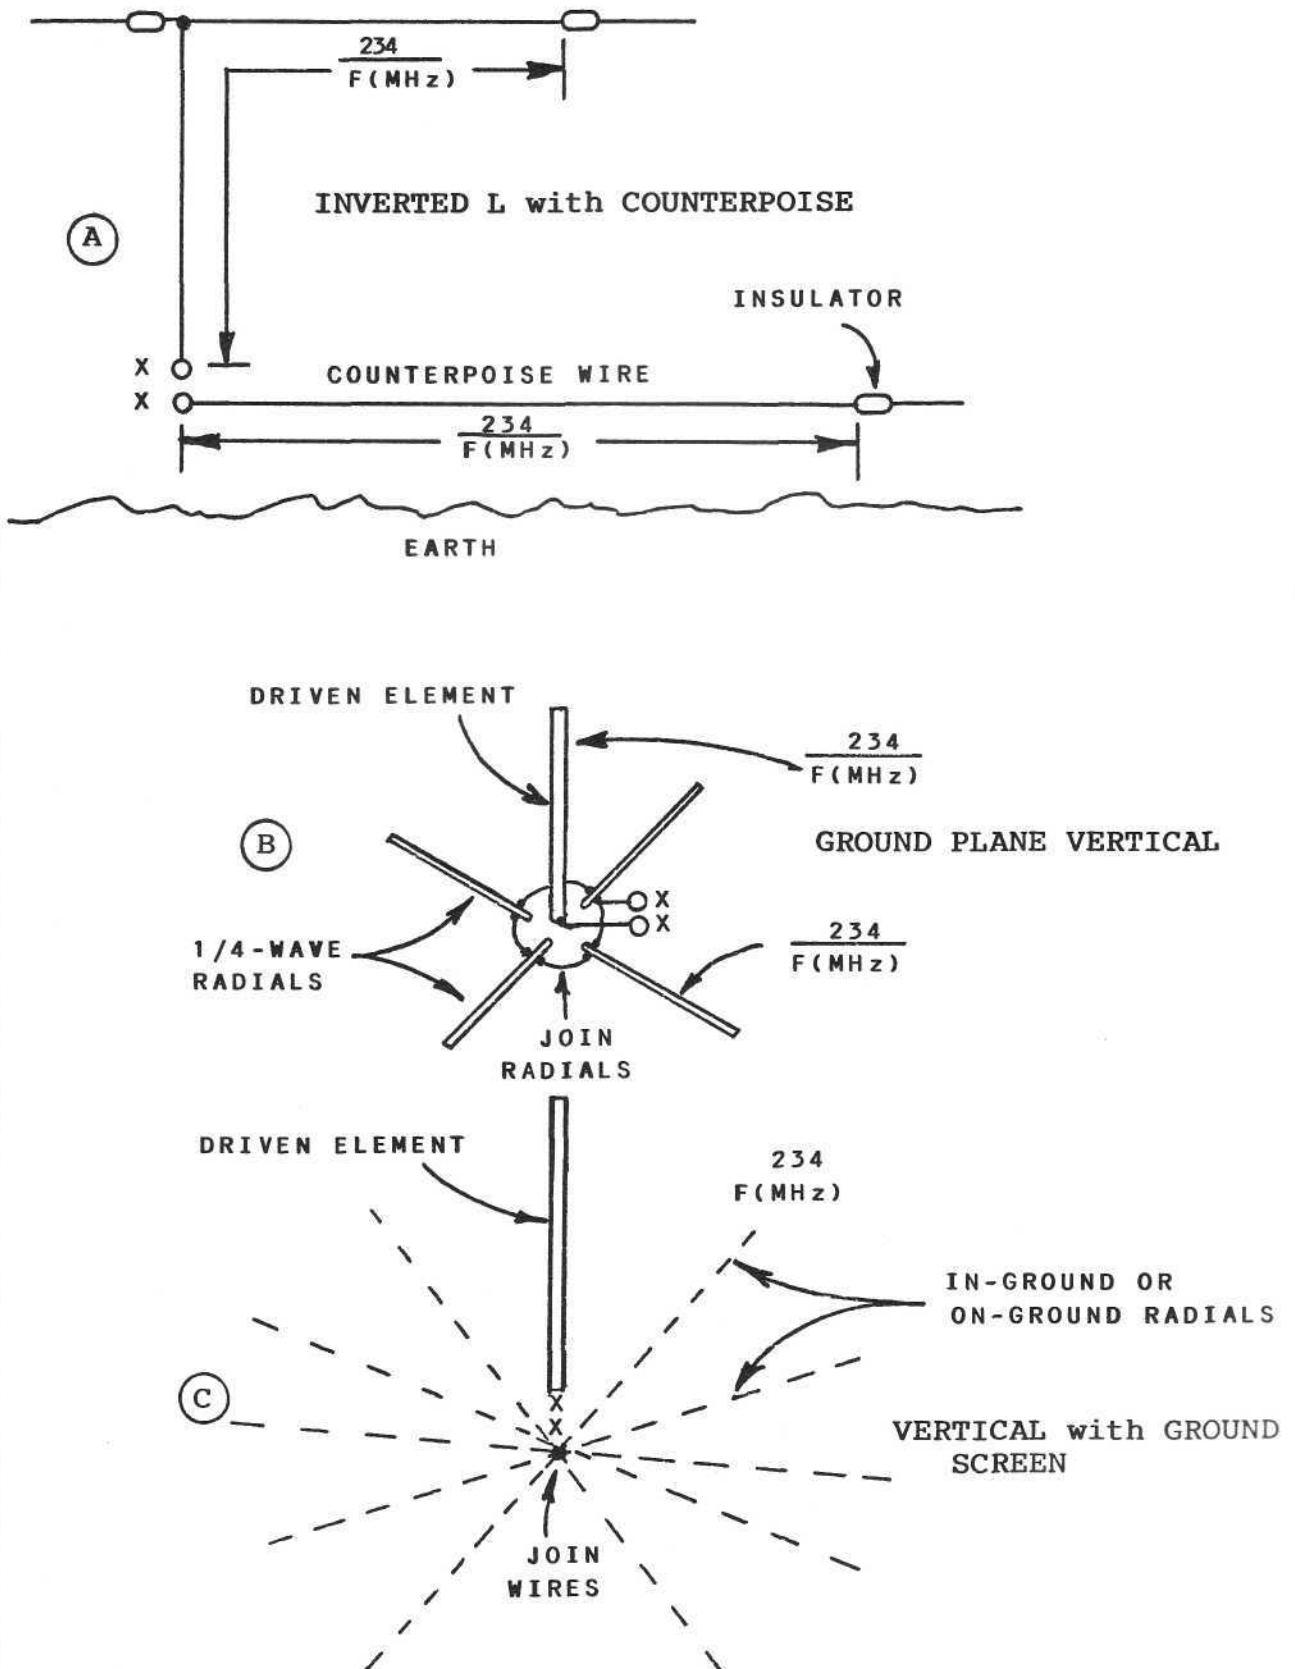

Fig 1-1
We must remember that the use of a ground screen or counterpoise lowers the effective height of the antenna. In other words, the distance between the antenna and the counterpoise is the effective height above ground. Ground screens are normally elevated a few inches or feet above the surface of the earth and are held aloft by means of poles and insulators. Some amateurs bury the wires in the ground, or simply lay them on the ground See Fig. 1-1.
Fig. 1-2 -- A less-than-ideal ground may be formed by bonding as many conductors as possible (A). A poor ground is better than none, and good results are frequently had with a system like that at A. Illustration B shows how to use several ground rods to form an earth-ground reference for grounding the station equipment, or for use with an antenna that is worked against an earth ground. Better efficiency will result when using the ground system seen at C of Fig. 1-1. Chain-link fences and the cold water pipes in a home may be added to the ground system at B to improve it.